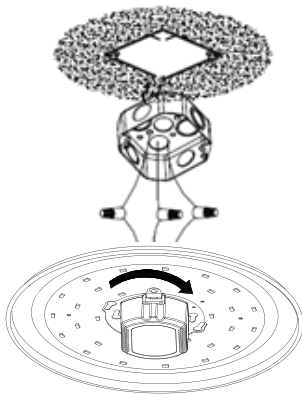

Figure 4
4. Connect the black and white wires of the luminaire with two wires of the same color from the junction box with wire caps. Connect the grounding wire of the luminaire with the one from the junction box with wire cap (figure 4)